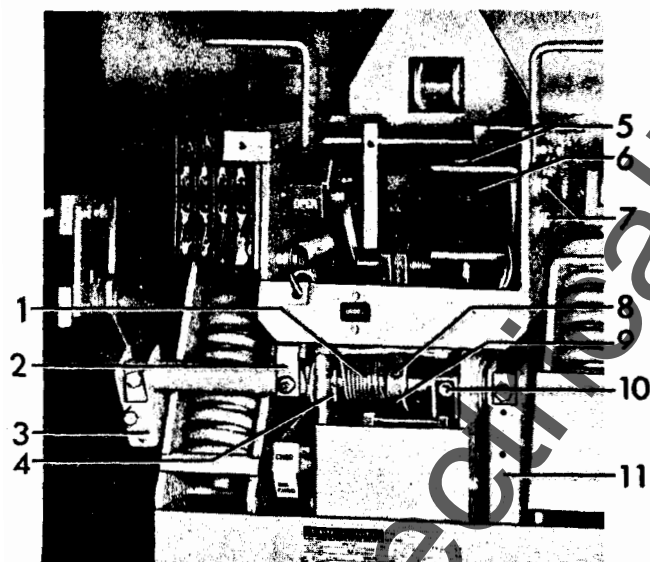

Figure 11. (8040934) Auxiliary Switch and Trip Coil
\* Refer to Figure 7. The trip armature (4) should have 1/16" to 3/16" travel before the trip latch (8) starts to move, plus 1/32" minimum overtravel after tripping. This can be adjusted by moving the trip coil support (2) and/or by adjusting the trip arm screw (10) Figure 11. A locking screw located behind the trip arm screw must first be loosened. Retighten locking screw after making adjustment.